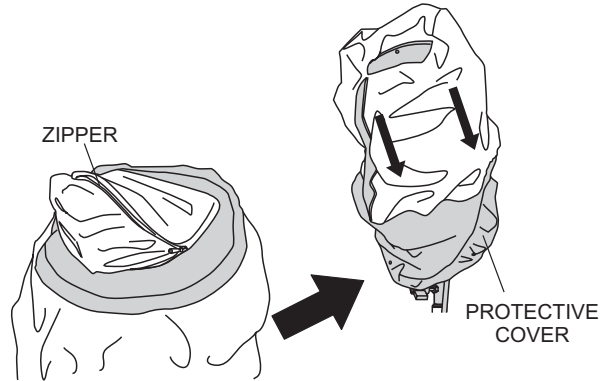

Figure 9. Unzipping the Protective Cover
4. Unzip the zipper on the protective cover (Figure 9), and pull down cover over balloon/lamp assembly.